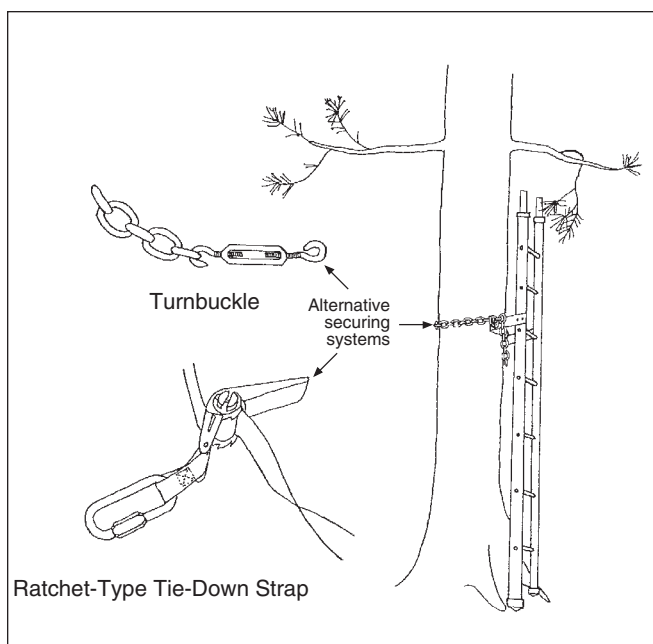

Figure 5e—Sectional tree climbing ladder.
- E. Secure the chain by knotting it around the bracket and itself so it cannot slip out of the fastening bracket. A tire chain fastener with a locking device, a turnbuckle system, or a tie-down strap with a ratchet tightener are all recommended instead of the manufacturer's system (figure 5e).